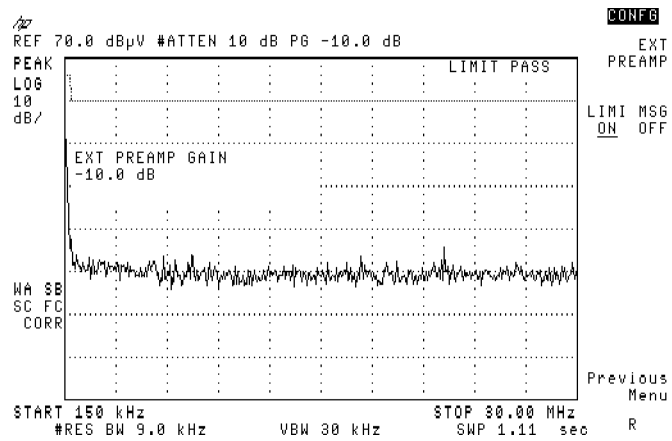

Figure 3-30. External Preamp Gain — 10 dB
16. Press **EXT PREAMP**, **(-)**, 10, **(dB)**. See Figure 3-30.